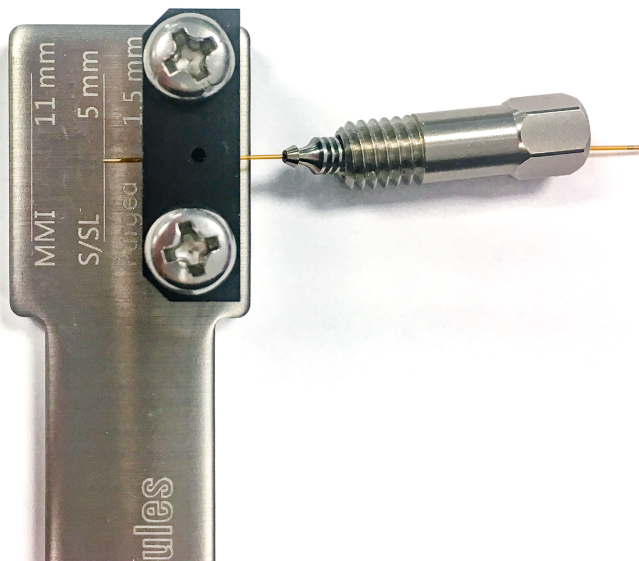

Figure 15. Thread the column through the column nut, ferrule, and swaging tool
3. Pass the column end through the column nut, the ferrule, and the swaging tool. See Figure 15.